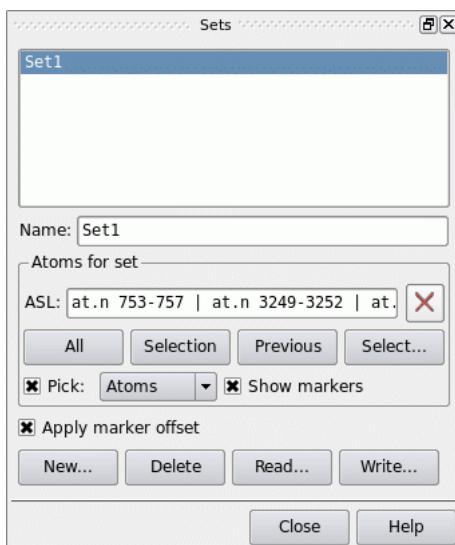

Figure 2.11. The Sets panel.
4. In the Sets panel, under Atoms for set, select Show markers (see Figure 2.11).